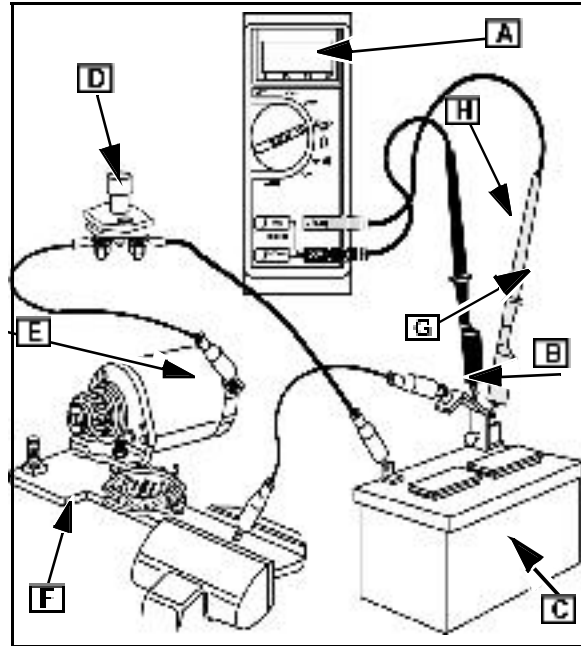

Fig. 61
- Digital Multimeter (A), #19464
- DC Shunt (B), #19468
- A fully charged 12 volt battery ([C] Fig. 61).
2. Connect starter switch (D) to starter motor (E), battery (C), BLACK lead (G), RED lead (H), shunt (B) and multimeter ([A] Fig. 61).